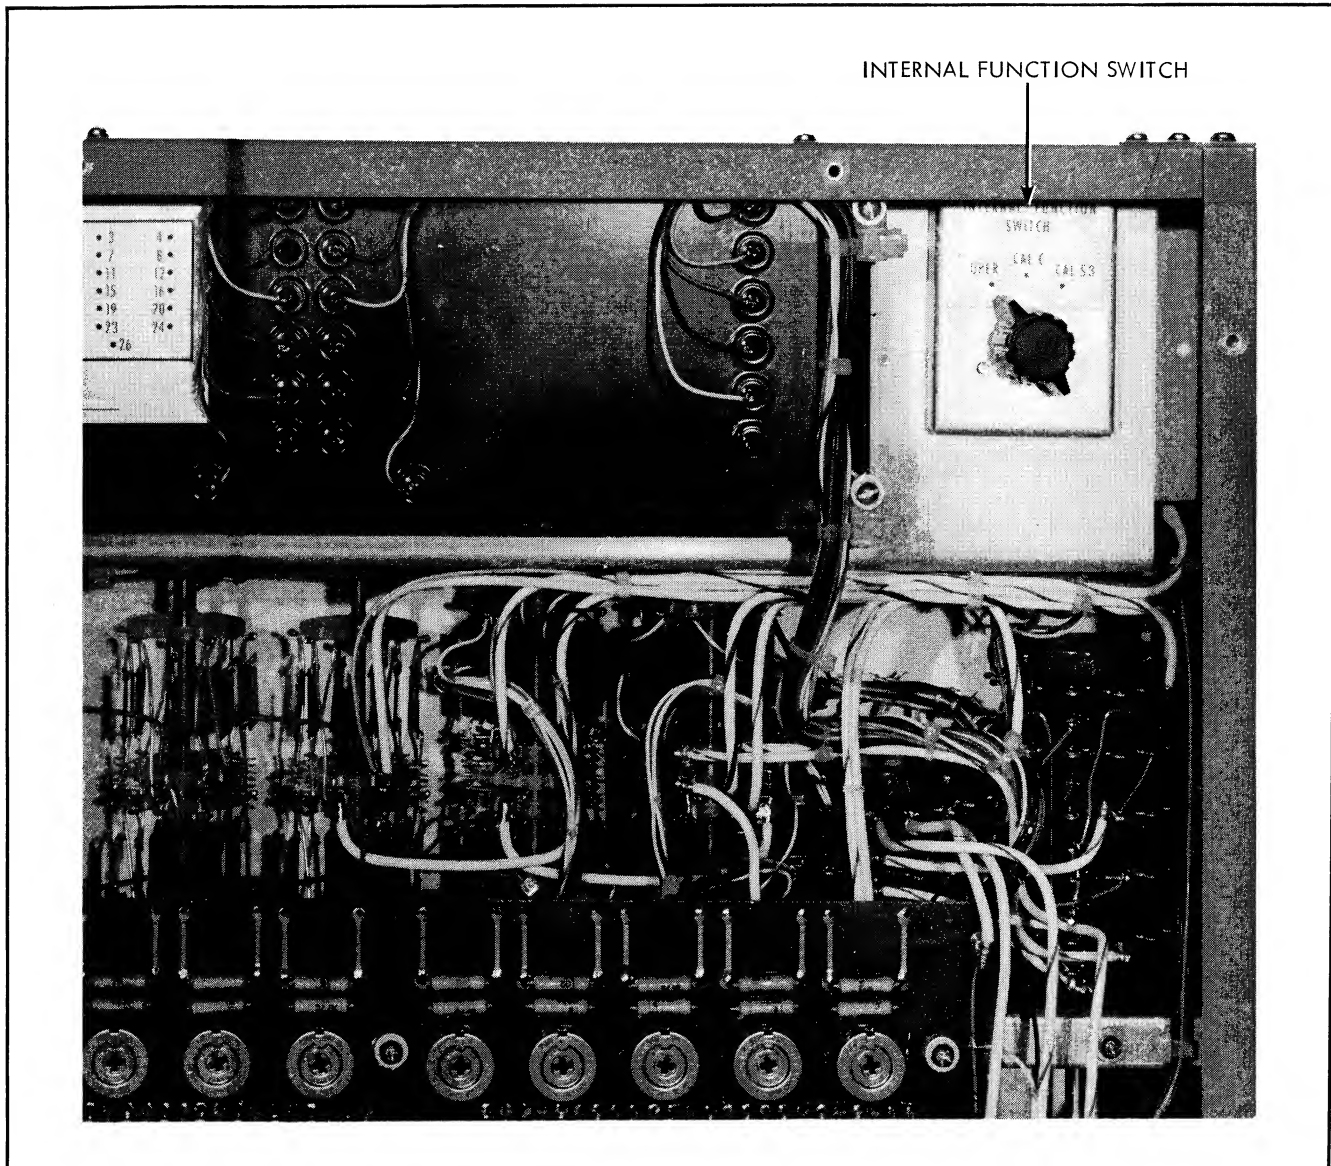

Figure 4-13. INTERNAL FUNCTION SWITCH
- a. Turn the FUNCTION switch to CAL A; turn the internal FUNCTION switch to OPR (Fig. 4-13) and set the readout to .0000000.